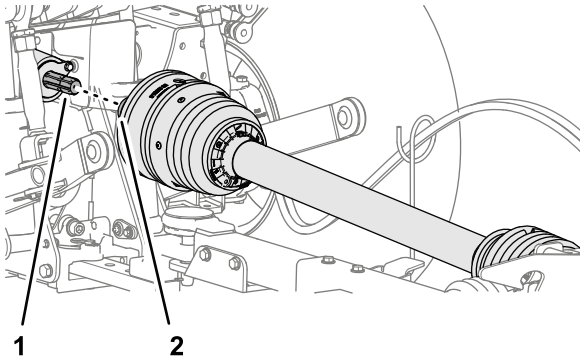

Figure 24
1. Align the quick-connect coupling of the PTO drive shaft with the output shaft of the PTO (Figure 24).